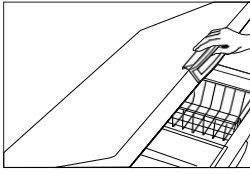

Figure 1
9. Open the door of your product and wait the ices for melting when the door is on open position. (Figure 1)